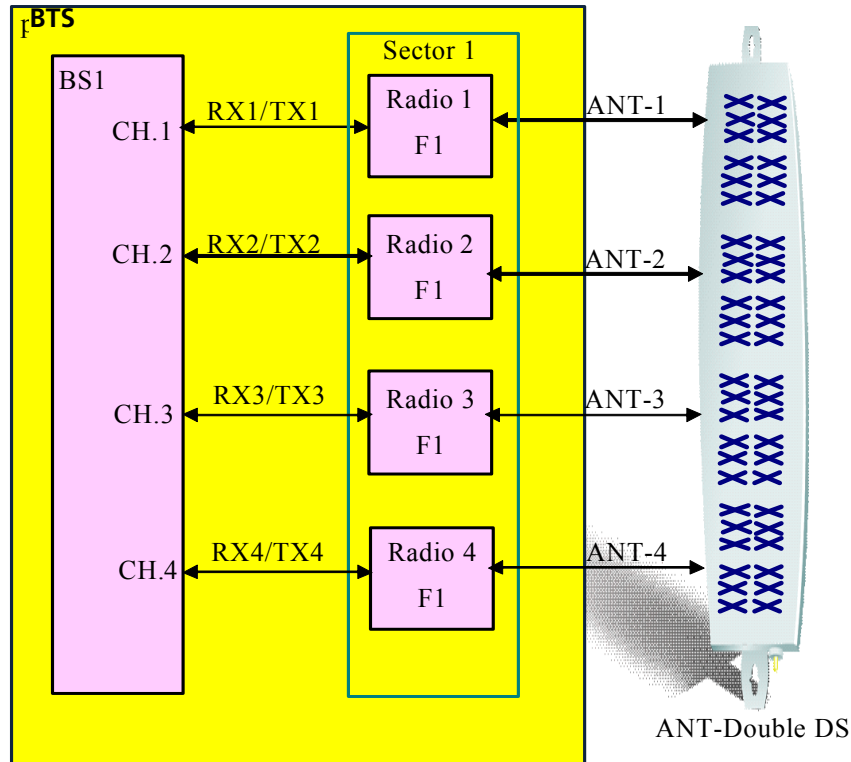

Figure 2-23: Single Sector with Double Dual-Slant Antenna Connections
- 2 Connect the other end of the data cable the backhauling equipment. See Figure 2-23.